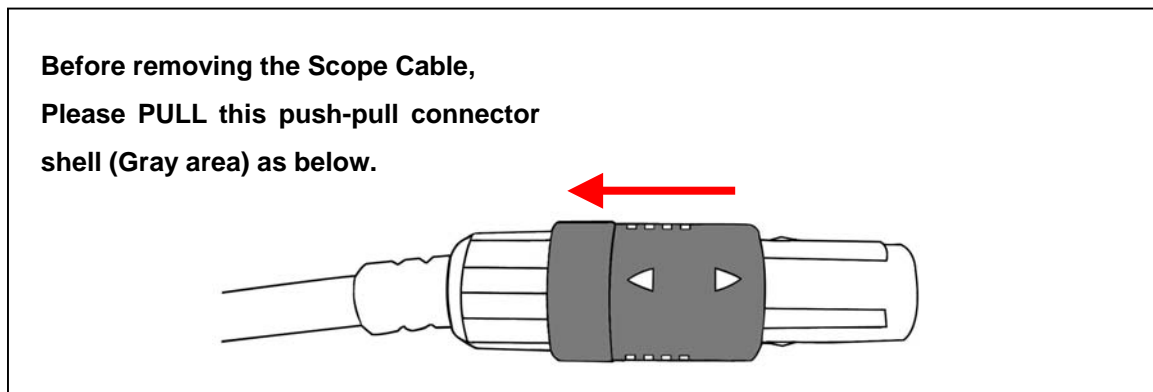

Figure 5. Removing the Scope Cable
When unplugging the scope cables, be sure to unlock the push-pull connector shell(Refer to [figure 5]) by sliding insert end before pulling the cable out.
- When removing scope cables, be sure to unlock the tab by sliding insert end before pulling the cable out. Refer to [Figure 5] at “Cable connection method and Applications”.